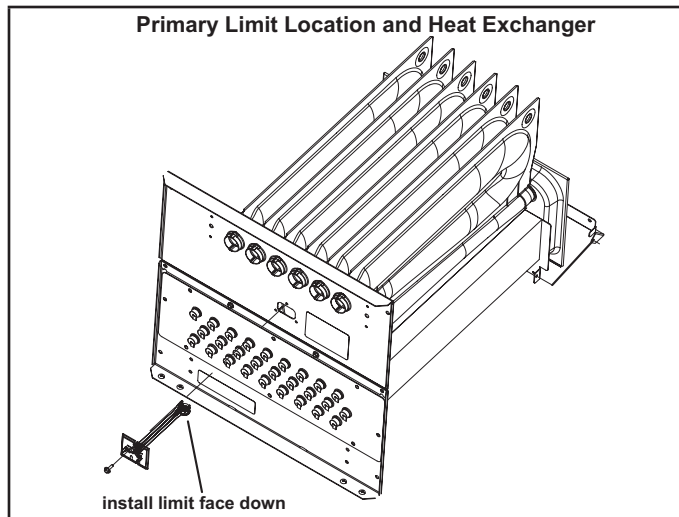

FIGURE 16
5. Duralock Plus Heat Exchanger (FIGURE 16)
FIGURE 16 shows the primary limit (S10) used on SLP99UHV units located in the heating vestibule panel. When excess heat is sensed in the heat exchanger, the limit will open. Once the limit opens, the furnace control energizes the supply air blower and de-energizes the gas valve. The limit automatically resets when unit temperature returns to normal. The switch is factory set and cannot be adjusted. In the event of restricted air flow, the integrated control will reduce firing rate and indoor blower airflow in 10% increments until a sustainable air flow is reached. If the furnace reaches 35% firing rate, and adequate air flow is not available, the furnace will shutdown and enter one hour watchguard. For limit replacement remove wires from limit terminals and rotate limit switch 90 degrees. Slowly remove from the vestibule panel.